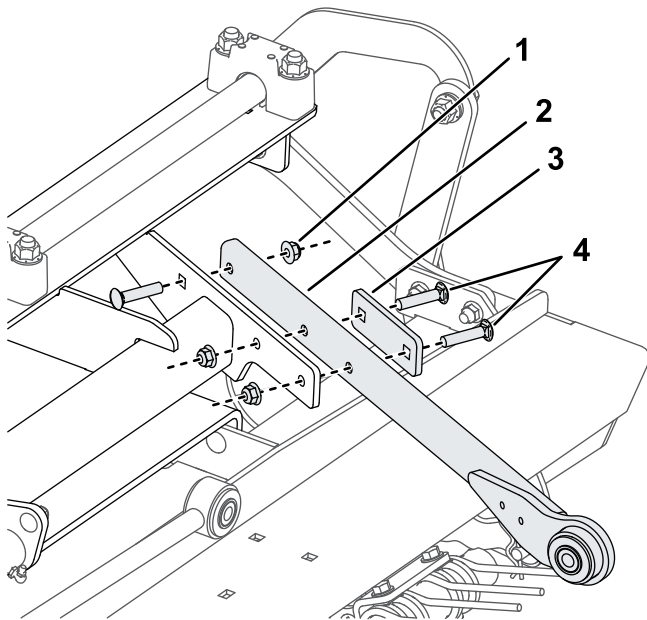

Figure 3
1. Install, but do not tighten, a push arm to the multi-tool using clamp plates and carriage bolts (3/8 x 1-3/4 inches) as shown in Figure 3.